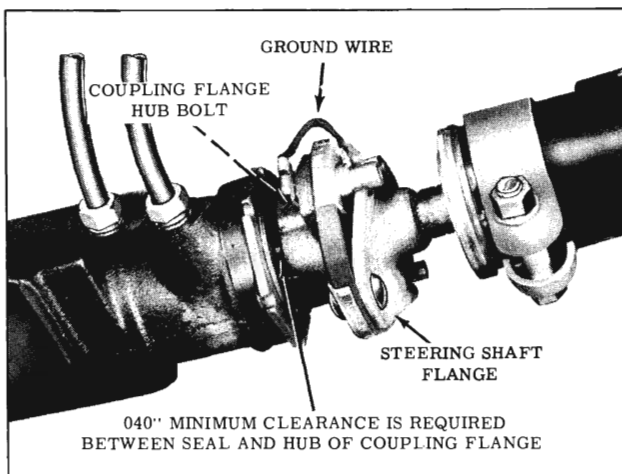

Fig. 4-38 Coupling Assembly
1. Remove the coupling flange hub bolt. (Fig. 4-38)